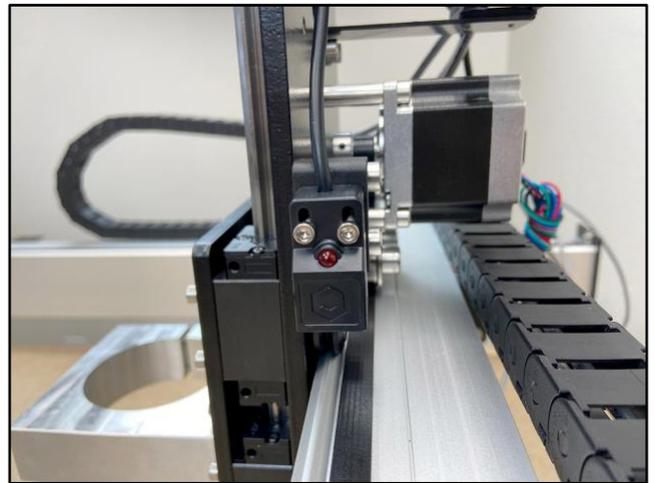

Figure 28
1. Attach the X-Axis proximity switch to the mount installed on the rear of the Z-Plus. See **Fig. 28**.
- d. Use a 2.5mm hex key and two (2) M3×18mm SHCS to secure the proximity switch.